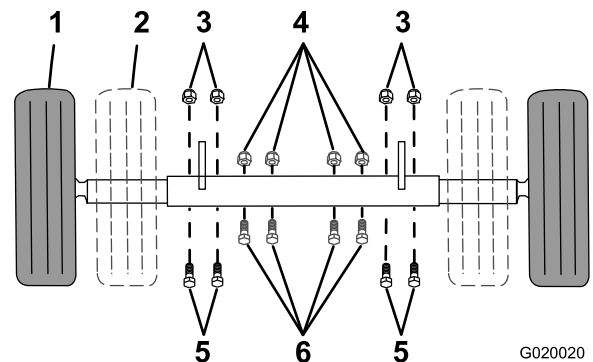

Figure 24
1. Support point (2)
4. Remove the bolts and nuts that secure the inner axle to the outer axle (Figure 24).
- Slide each side of the axle inward to the narrow position (Figure 24).
- Slide each side of the axle outward to the wide (tow) position (Figure 24).
7. Insert the bolts through the axle holes (Figure 24).